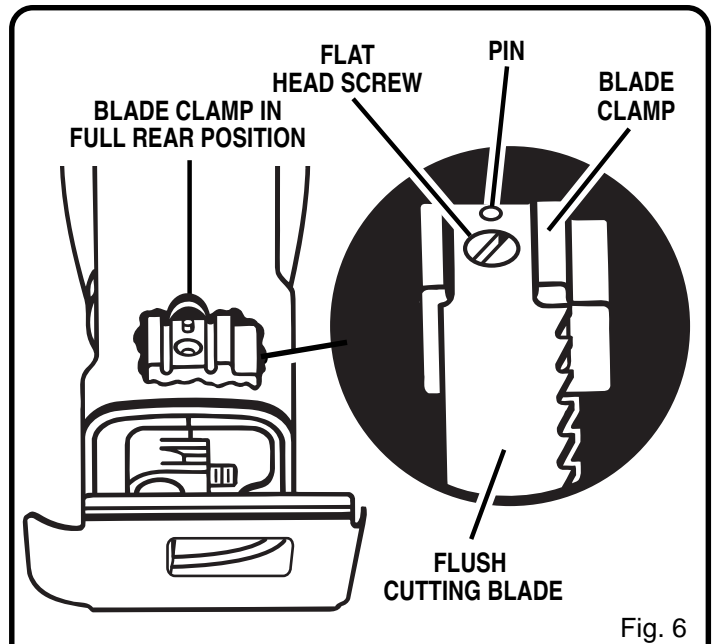

Fig. 6
See Figures 6 and 7.
- Depress and release the switch trigger of your saw in quick, short starts and stops until blade clamp is in its full rear position. See Figure 6.
- Insert flush cutting blade on top of blade clamp as shown in figure 6.
- Using the flat head screw provided, secure blade to blade clamp. See Figure 6.